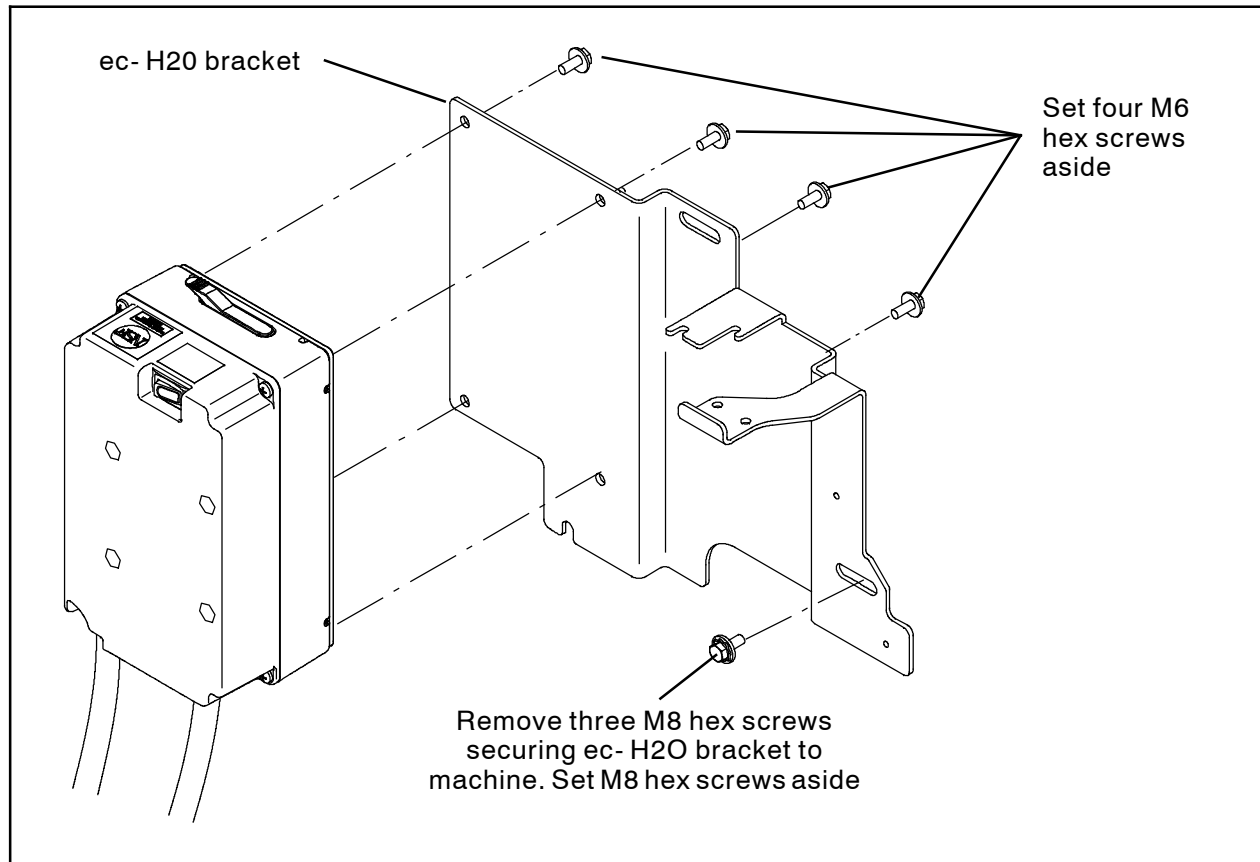
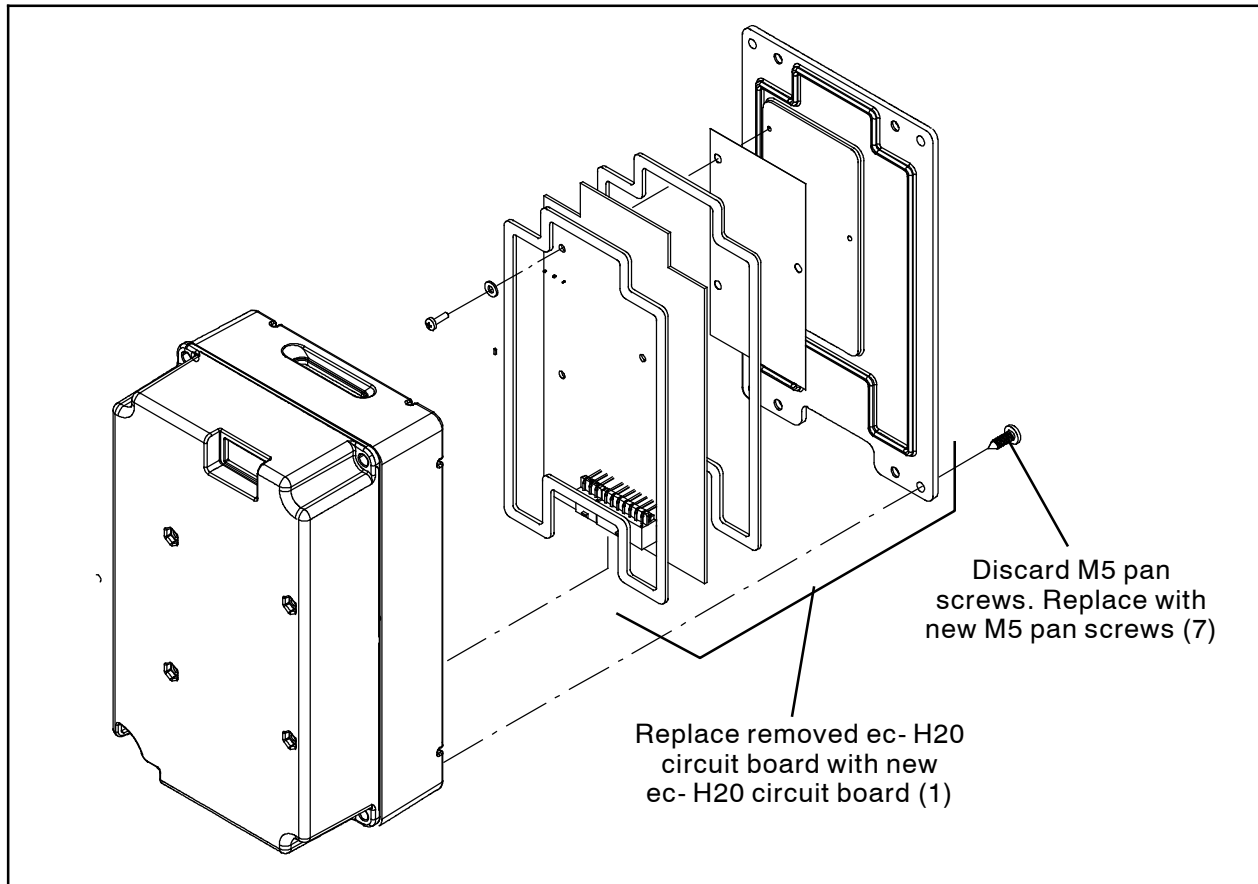

FIG. 1
FIG. 4
1. Remove the ec- H2O bracket from the machine. Set the three M8 hex screws aside. (Fig. 1)
2. Remove the ec- H2O module from the ec- H2O bracket. Set the four M6 hex screws aside. (Fig. 1 / Fig. 2)
3. Secure static ground strap (8) around wrist. Secure the other end of the static ground strap to the machine frame.
4. Remove the ec- H2O circuit board assembly from the ec- H2O module. Discard the four M5 pan screws. (Fig. 3 / Fig. 4)
9. Reinstall the ec- H20 module onto the ec- H20 bracket. (Fig. 1 / Fig. 2)
10. Reinstall the ec- H20 bracket onto the machine. (Fig. 1)
8. Use four M5 pan screws (7) to install the ec- H20 circuit board assembly (1) onto the the ec- H20 module. (Fig. 3 / Fig. 4)